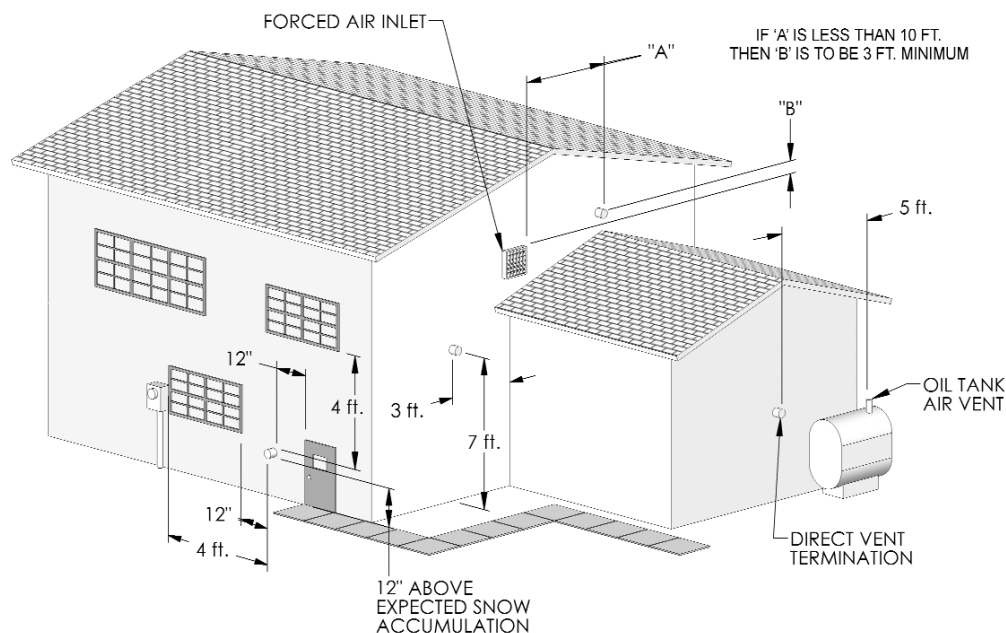

Figure 3.2: Exit Terminal Location for Mechanical Draft and Direct-Vent Venting Systems
- a. See Figure 3.2 for an illustration of clearances for location of exit terminals of direct-vent venting systems.